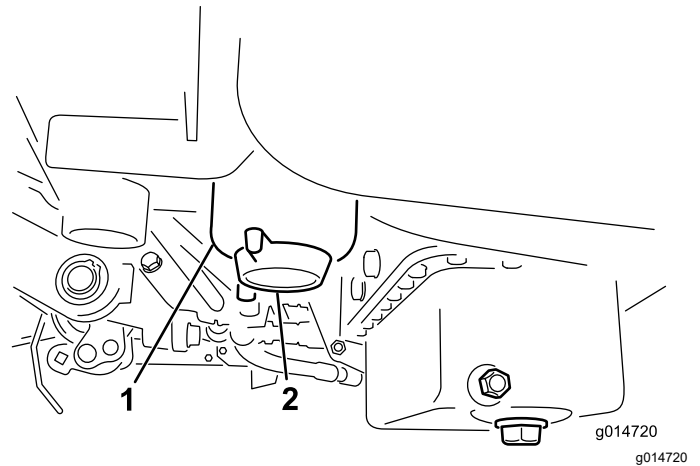

Figure 37
3. Open the drain plug on the fuel filter approximately one turn and drain any accumulated water (Figure 37).